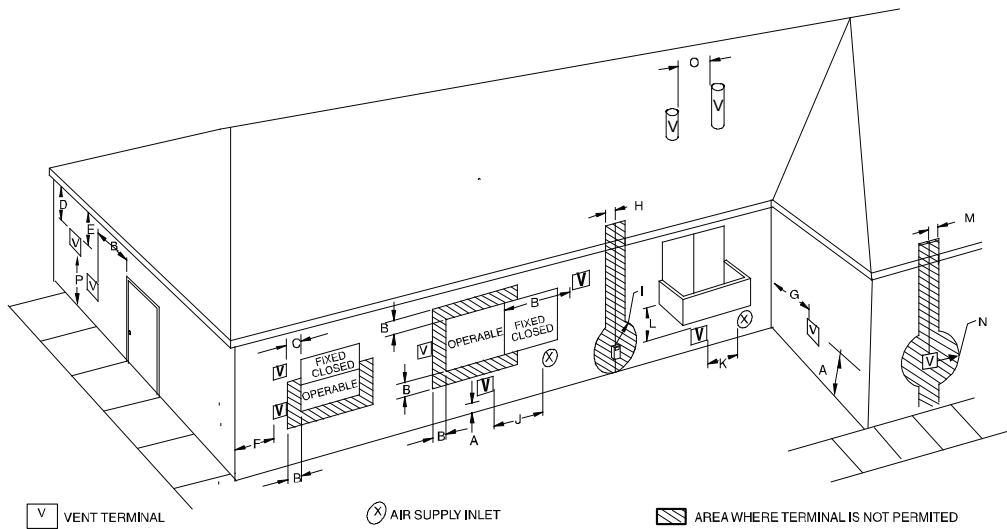
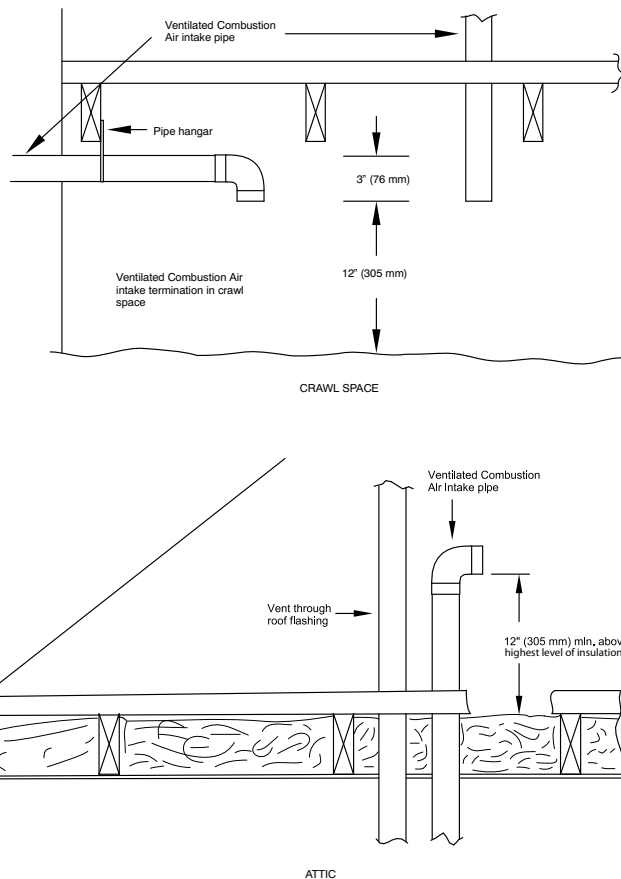

Fig. 43 – Ventilated Combustion Air and Non-Direct Vent Termination Clearance
Fig. 48 – Vent Terminations for Ventiladed Combustion Air
In a ventilated combustion air option, the vent terminates and discharges the flue products directly to the outdoors similar to a direct vent system. See Fig. 43 for references to clearances required by National code authorities.
in the Air For Combustion and Ventilation Section. Do not use an abandoned chimney to supply outside air to the furnace. See Fig. 43 for references to vent clearances required by National code authorities.
For vent termination clearance, references to National codes are shown in Fig. 42 for Direct Vent/2-Pipe system and Fig. 43 for Ventilated Combustion Air/Non-direct Vent/1-Pipe system. For exterior termination arrangements, refer to Fig. 40 for Direct Vent/2-Pipe system and Fig. 41 for Ventilated Combustion Air/Non-Direct/1-Pipe system. Contact Local code authorities for other requirements to and/or exemptions from the National codes shown in the figures.
1. Comply with all clearance requirements stated in Fig. 42 or Fig. 43 per application.
The vent pipe for a Ventilated Combustion Air System must terminate outdoors. See Fig. 43 for references to vent clearances required by National code authorities. Allowable vent terminations are shown in Fig. 41. The combustion air pipe terminates in a well-ventilated attic or crawl space. Follow the clearances as shown in Fig. 48.
The vent pipe for a Non Direct Vent (1-pipe) system must terminate outdoors. See Fig. 43 for references to vent clearances required by National Code authorities. Allowable vent terminations are shown in Fig. 41.